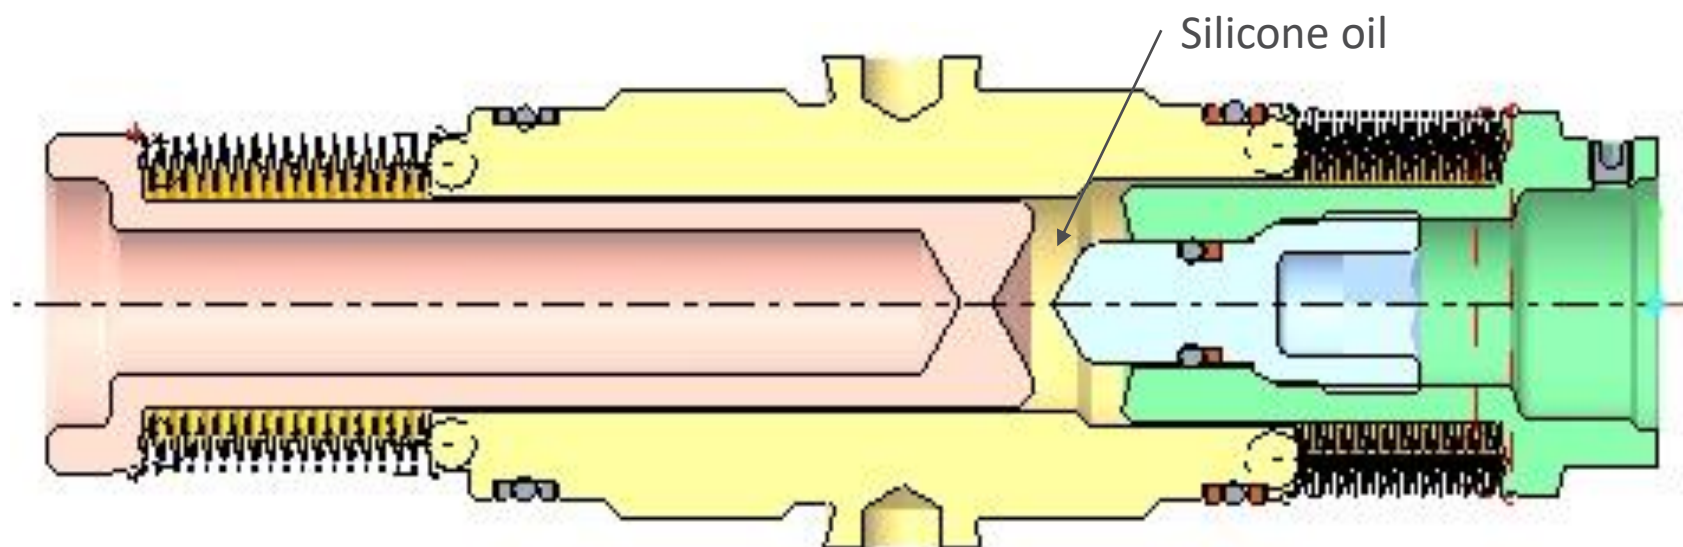

Figure 13
- Oil volume is minimized to minimize effect of thermal expansion, figure 13 below.